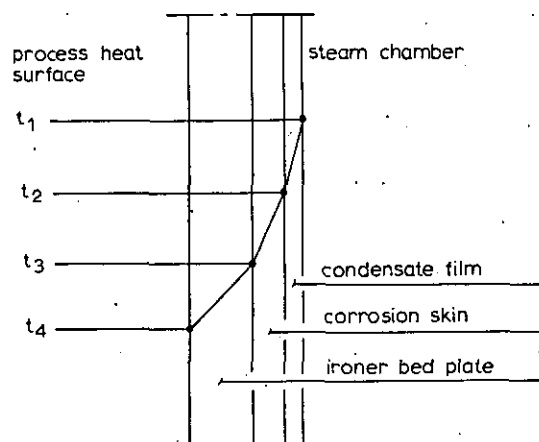

Fig. 2 Temperature gradient of the ironer
- as the ironer ages, corrosion also helps to defeat the designer's purpose by creating more resistance to heat flow (Fig. 2).